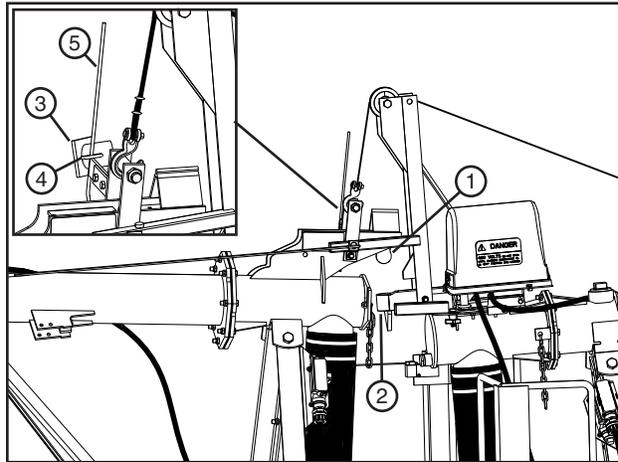

Figure 30-2 1. Ball Hitch 2. Hitch Socket 3. Ramp 4. Ring 5. Stop Rod
5. Lift the span until the ball hitch is positioned above the hitch socket. See Figure 30-2.
6. Remove the ramp from hitch socket before lowering the ball hitch into the socket. Hang ramp by the ring on the stop rod for storage. See Figure 30-2.
7. Lower the span until the ball hitch is seated in the hitch socket. See Figure 30-2.